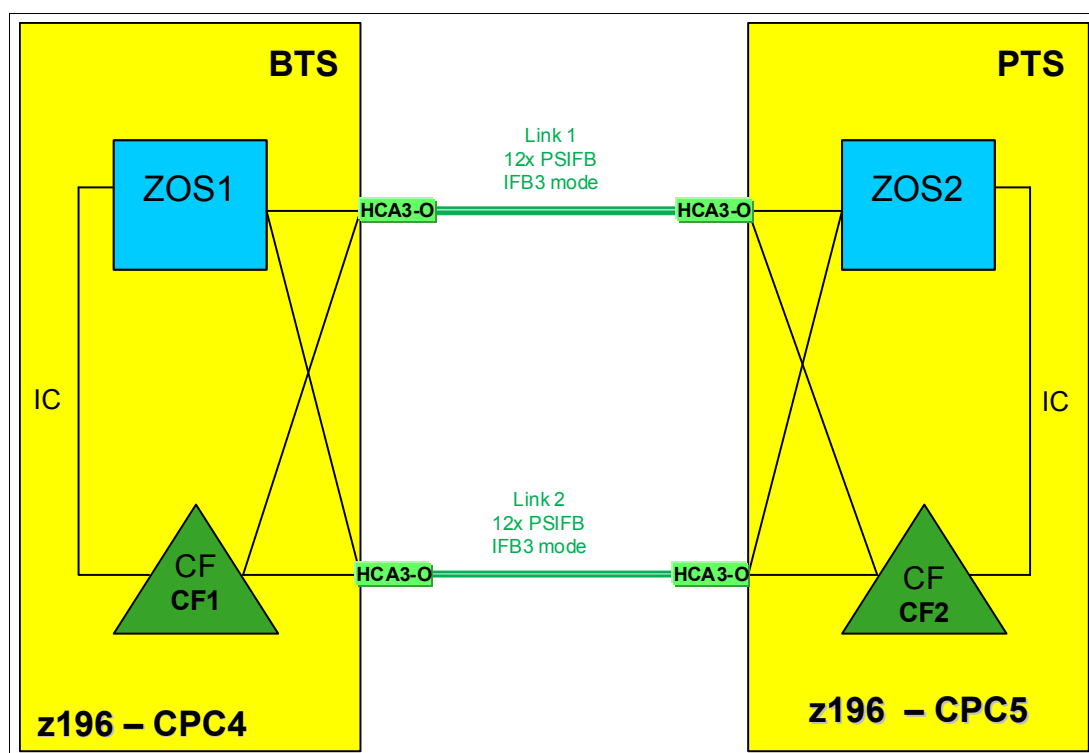

Figure 4-19 Scenario 5: Final configuration
12. The final configuration, with both links now migrated to HCA3-O 12X fanouts and running in IFB3 mode, is shown in Figure 4-19.